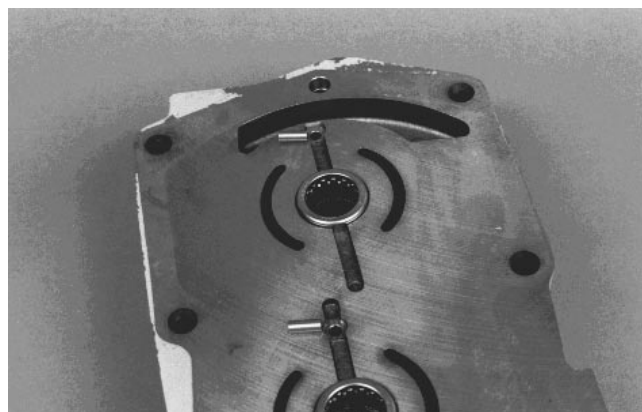

Figure 45
6. Remove valve plate pins from center section (Fig. 45).